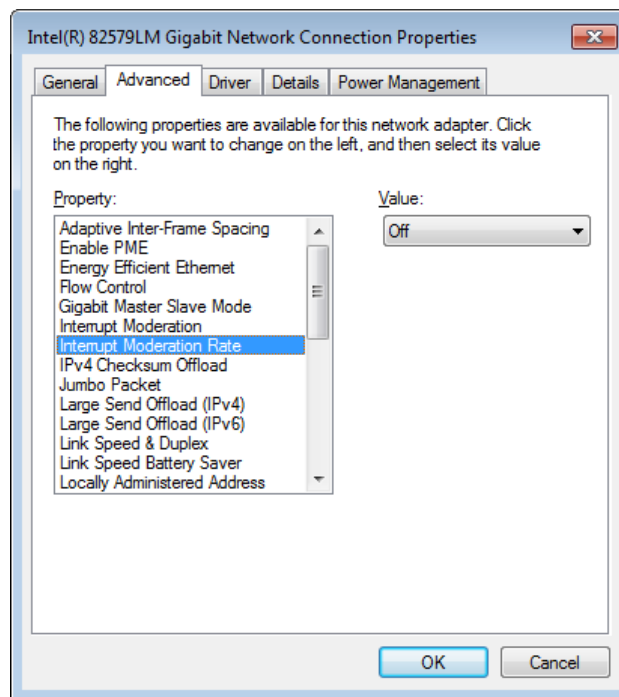

Figure 119: Network interface card - advanced driver settings - Interrupt Moderation Rate
To optimize the latency of the data transmission, it is recommended to disable the *Interrupt Moderation Rate* feature of the network adapter. This feature changes the way of interrupt generation by an incoming packet and makes it possible to reduce the delay in the processing of incoming Ethernet packets. It is usually accessible via the identically named property in the advanced driver settings of the NIC, shown in Figure 119.
4. The settings of the driver can be accessed by choosing the *Advanced* tab of the opened window. As shown in Figure 119, set the value of the *Interrupt Moderation Rate* property to *Off* or *Disabled*.